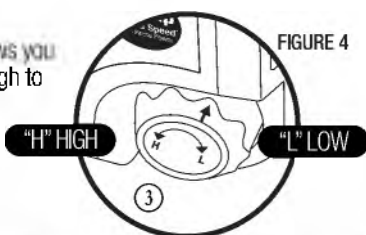

FIGURE 5
• Use the chart to determine the best speed for the bit diameter. **FIGURE 5.**